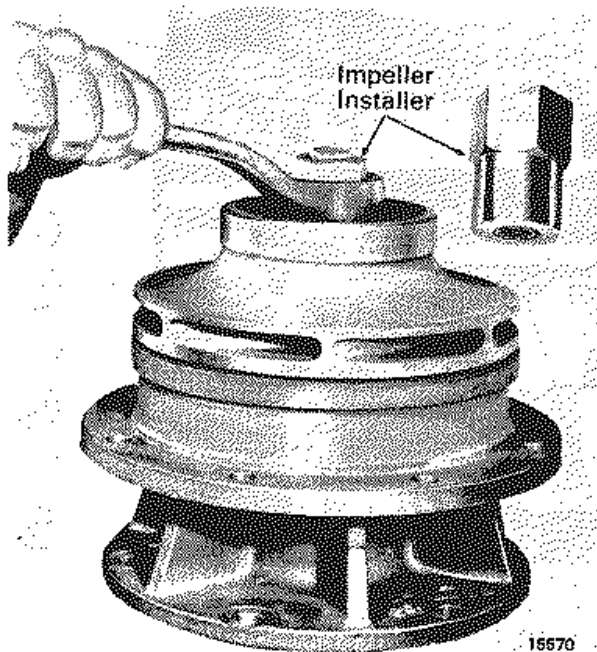
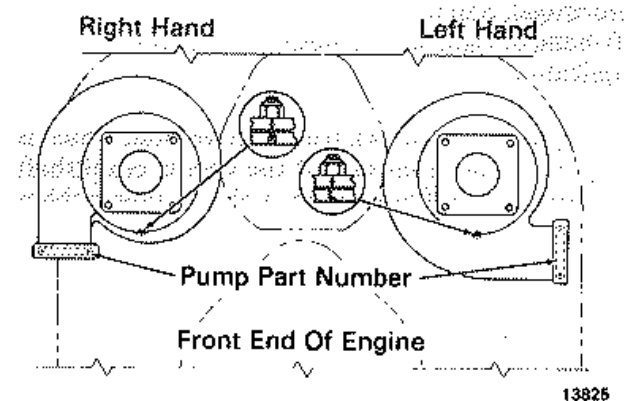

Fig. 10-9 - Installer Pump Impeller
Fig. 10-10- Pump Housing Positioning
The stationary bushing, Fig. 10-9, is applied to the drive shaft housing. The carbon of the seal assembly, Fig. 10-10, faces against the smooth inner surface and is held by a spring. Any water leakage past the seal is indicated at a tell-tale drain in the drive shaft housing which permits runoff, and prevents water from reaching the engine side of the pump.
12. Fig. 10-9 shows the impeller installer being used to assemble the impeller to the drive shaft housing. The threaded bushing is screwed on pump shaft threads and then by turning outer portion of installer tool, the impeller is pressed into position. Care must be taken to start the impeller straight on the shaft and to see that the key and keyway are aligned. Before the impeller is brought all the way down, check the underside to see that the seal spring is in the spring slot under the impeller and then finish the impeller application.
16. An arrow is cast at the bottom of the pump shaft housing and the impeller housing has a letter "R" and "L". For a right hand bank pump, assemble the impeller housing so that "R" is opposite the arrow on the shaft housing or for a left bank pump, the "L" is opposite the arrow, as shown in Fig. 10-10.
1. The pumps are installed in the position shown in Fig. 10-10 for the right and left bank. Torque mounting bolts to specified value.
2. The part number of the pump is located on a plate attached to the pump discharge flange, as shown in Fig. 10-10. It should also be noted on pump installation, that the water inlet elbow is the proper one as listed in the parts book for the engine installation.